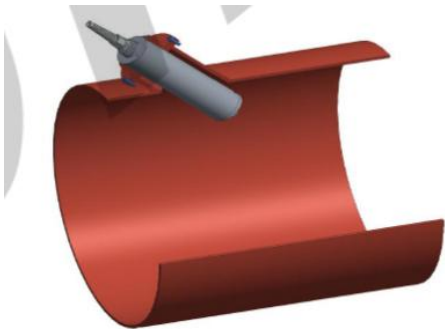
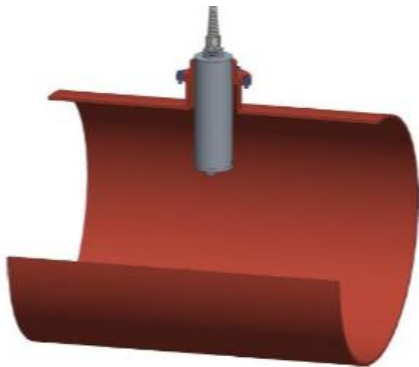

Figure 2-7: Pipe installation at a 45° angle
Figure 2-8: Pipe installation at a 90° angle
- There are two options for pipe mounting: **45° installation** and **90° installation**, as shown in **Figure 2-7** and **Figure 2-8** .